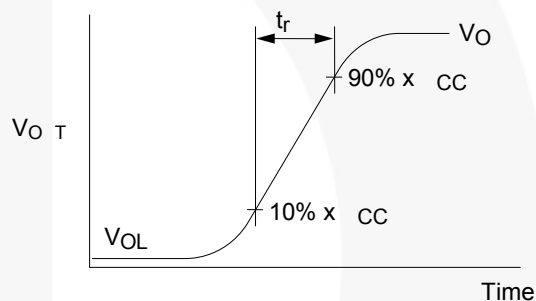

Figure 7. Active Output Rise Time
9. See Figure 7.
12. See Figure 7.